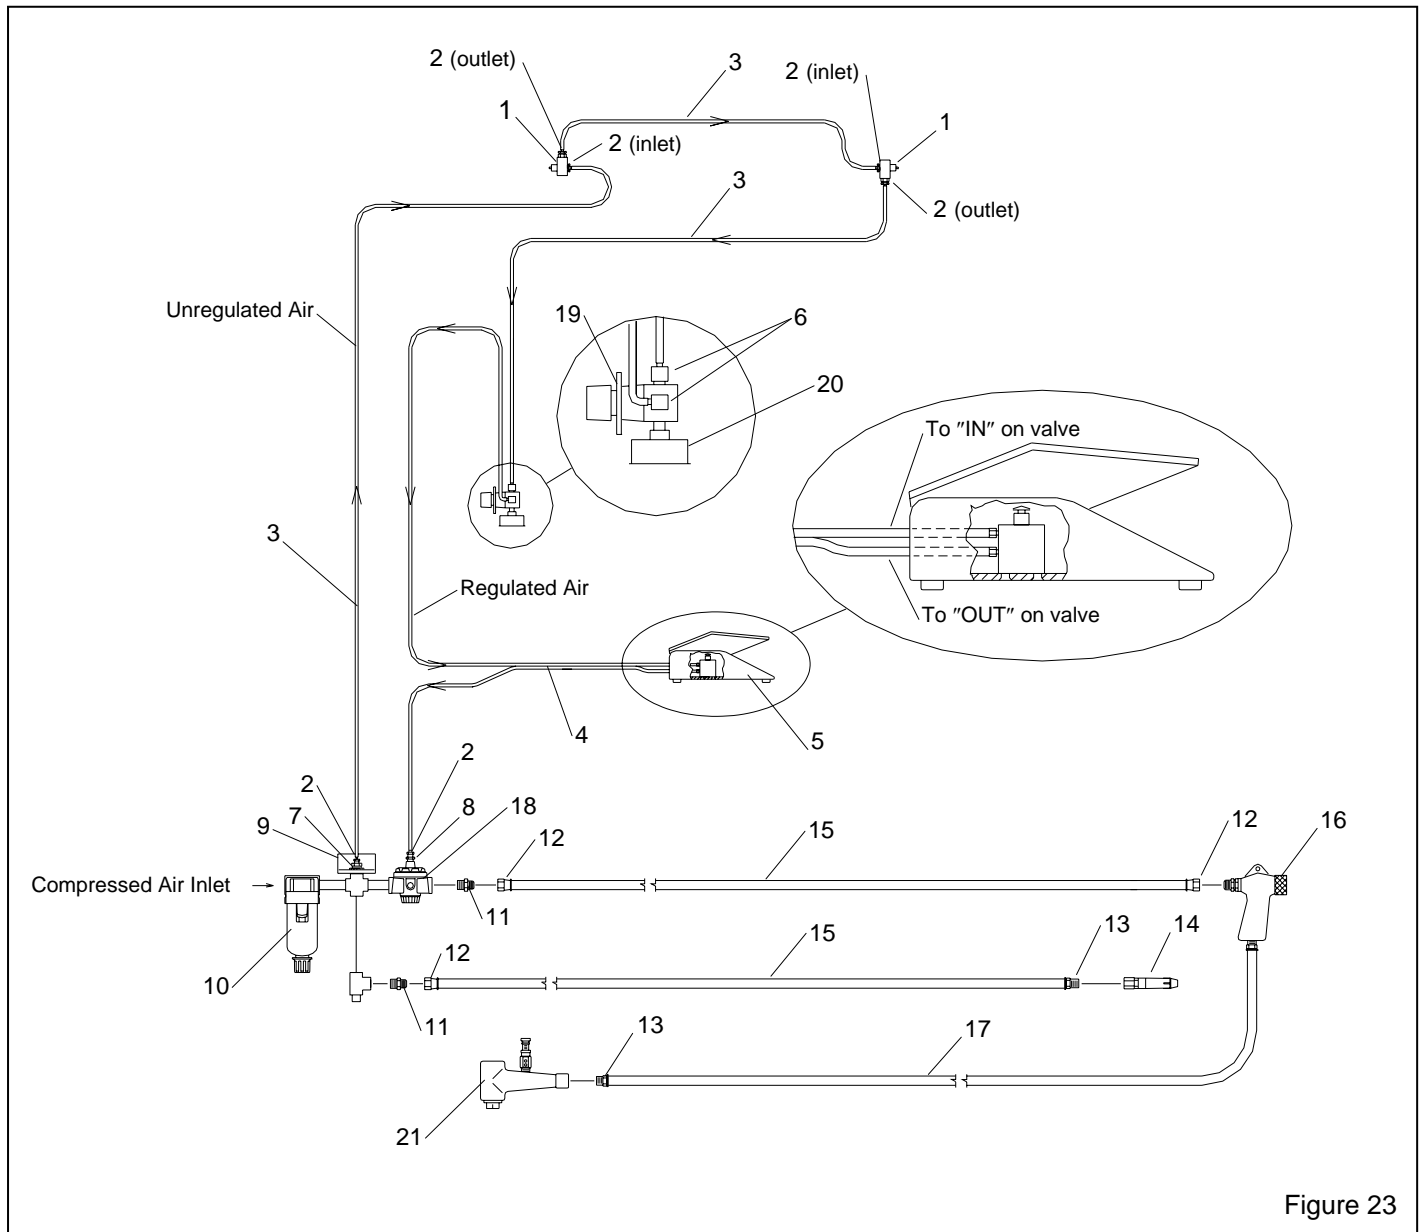

Figure 23
9.7 Cabinet Plumbing Assembly, Figure 23